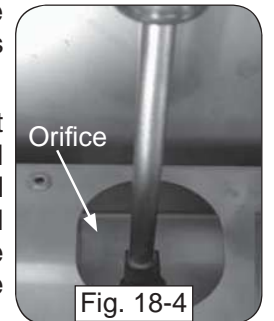

Fig. 18-4
5. Use a $\frac{3}{8}$ " hex nut driver to remove the exposed orifice (Fig. 18-4) and replace it with the correct orifice for the new gas. (See Table 1 at the beginning of this document for orifice sizes.)